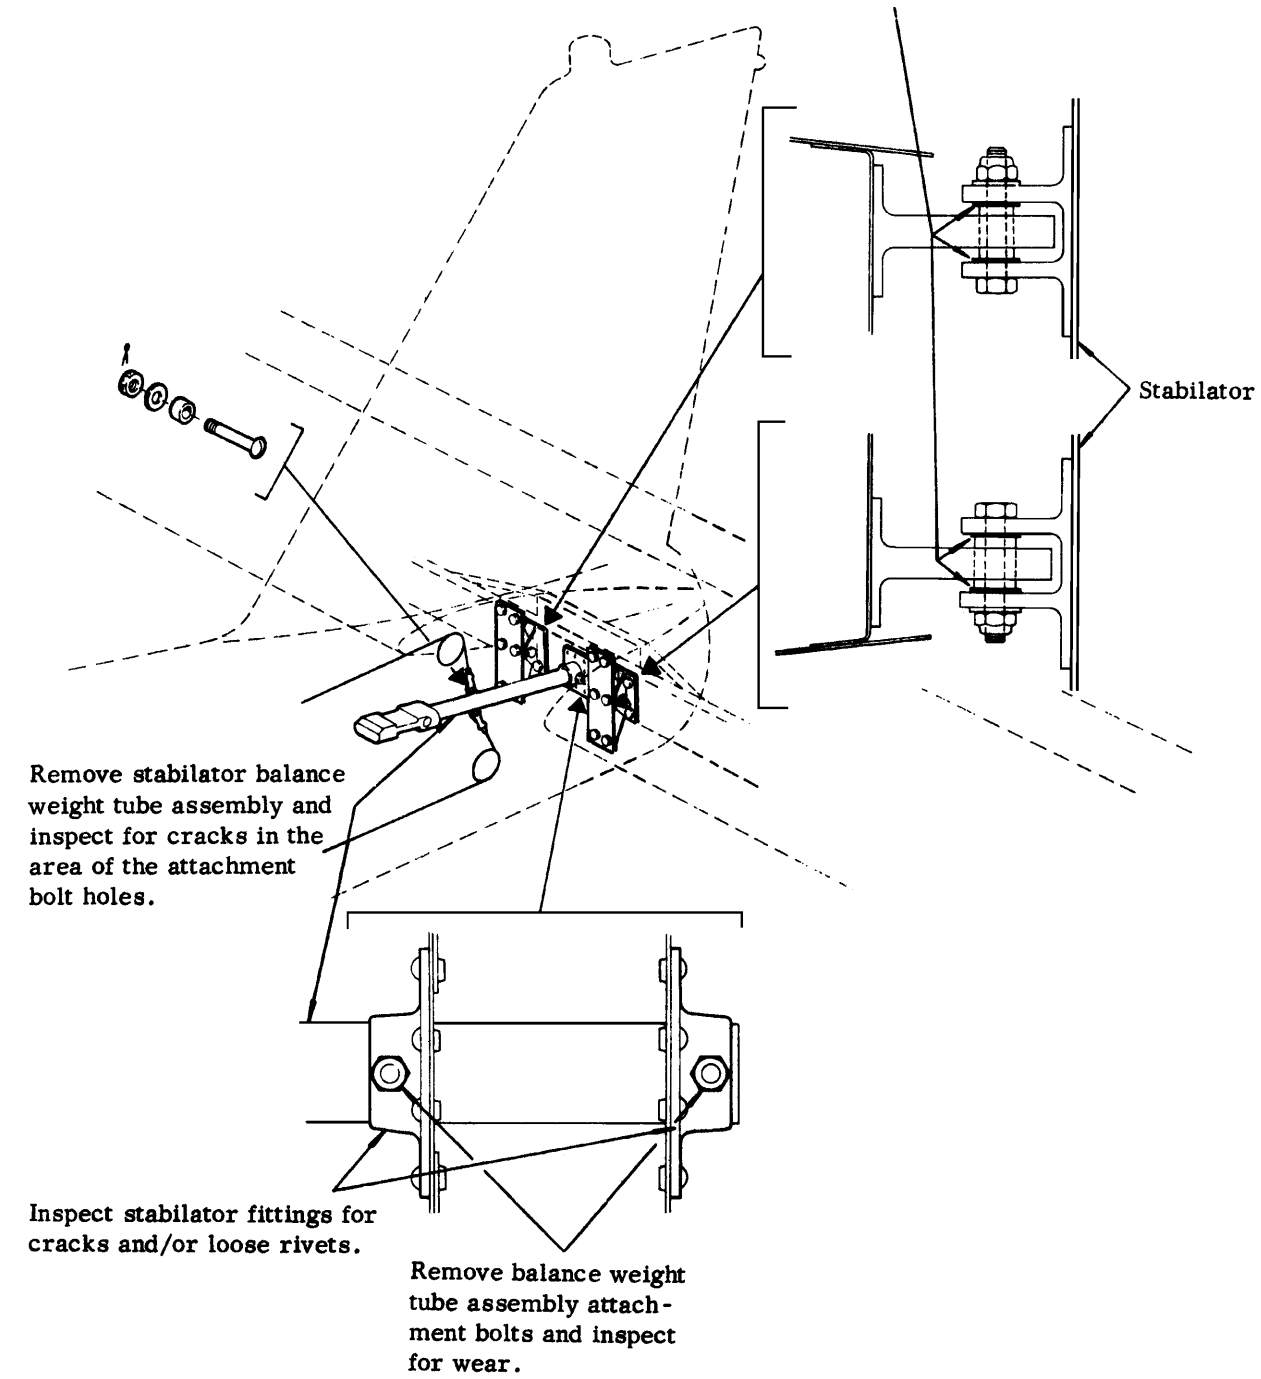

Figure 3-4. Stabilator Balance Weight Tube Inspection
- (d) Remove the stabilator balance weight tube assembly attachment bolts as shown in Figure 3-4 and inspect bolts for wear.
- (i) Visually inspect stabilator fittings (P/N 63567-03) for evidence of cracks and/or loose rivets as shown in Figure 3-4.